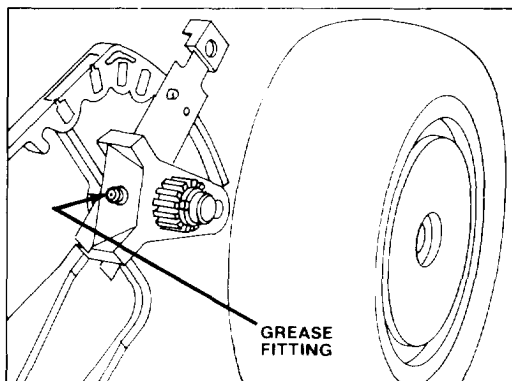

Figure 15
2. **GREASE FRONT AXLE PIVOTS** (Fig. 15) — Adjust height-of-cut to 3-inch setting and loosen wheel bolt to get additional clearance around grease fitting. Wipe grease fitting with clean rag. Install grease gun onto fitting and gently apply 2 or 3 pumps of #2 Multi-Purpose Lithium Base Grease. Excess pressure may damage seals.